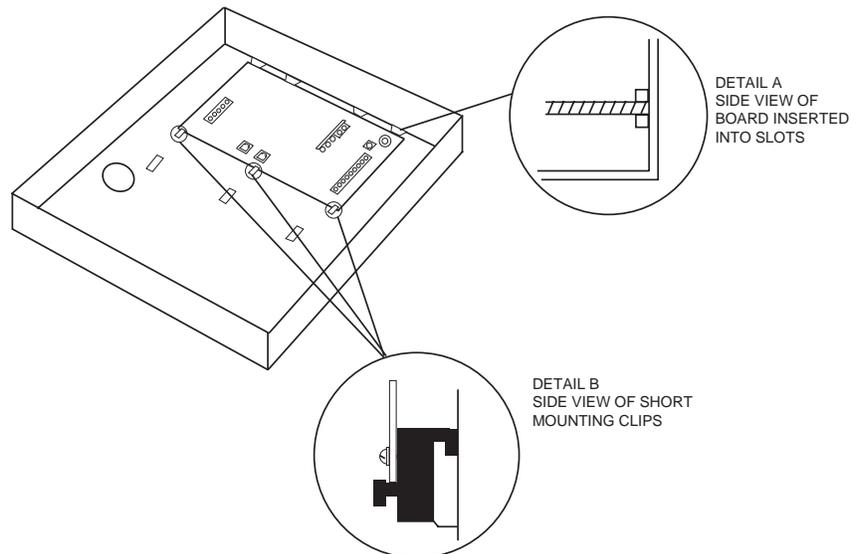

Figure 2: Mounting the 5110XM PC Board
1. Hang three *black* mounting clips (provided) on the raised cabinet tabs (see Detail B in Fig. 2).
3. Swing the base of the board into the mounting clips and secure the board to the cabinet with the accompanying screws (see Detail B in Fig. 2).